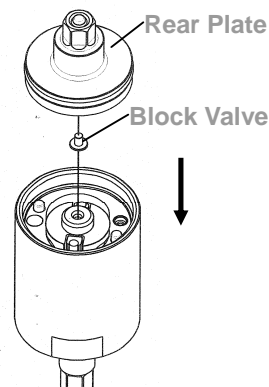

Fig. 426
- ④ Put the block valve into the rear plate taken out at Step 2, and then install the rear plate to the pulse cylinder. Make sure the positions of the pins and the holes are exactly matched. (Fig.426)
- ⑤ Turn the assembled unit up side down so the rear plate is at the bottom. Then press the pulse cylinder seat all the way down to the fixed position. Make sure the corresponding positions are matched exactly.